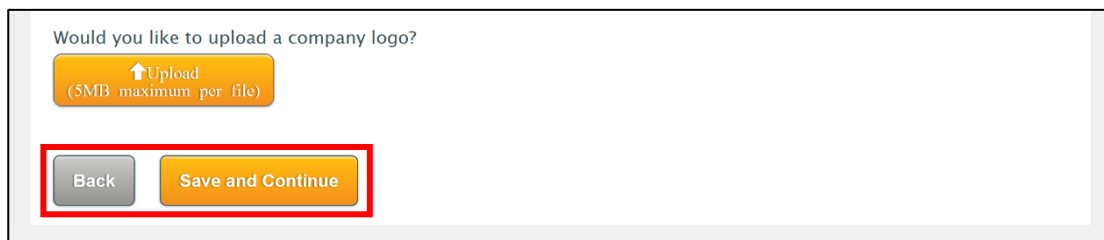

Figure 8. Clicking “Save and Continue” saves your information and opens the next page.
- Click “Back” to make changes to the previous page or “Save and Continue” to proceed (see *Figure 8*). At this point, your information is saved and can be retrieved using your Program ID.